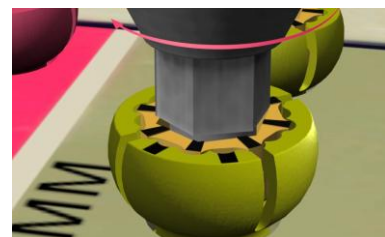
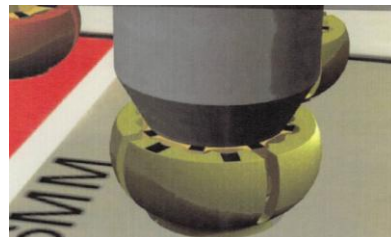

fig. 5a
fig. 5b
- Use your free hand to engage the outer screw shaft hex of the Clocked Screw Driver into the screw cam. This is achieved by lightly pushing down and slightly rotating back and forth (clockwise –counterclockwise motion) the 4-pronged wheel (fig.5a) until the hex of this outer locking mechanism is fully engaged into the hex of the Bone Screw Locking Cam (fig. 5b) to a hard stop.